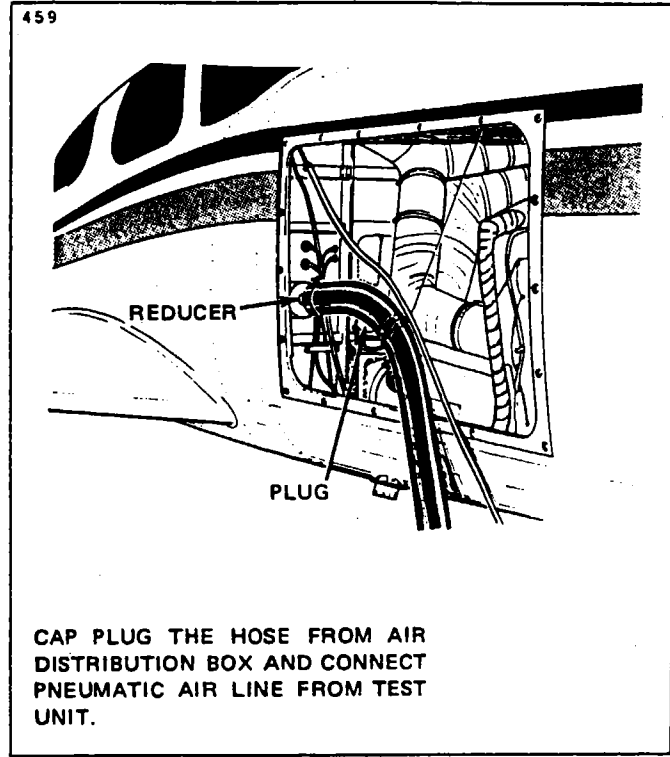
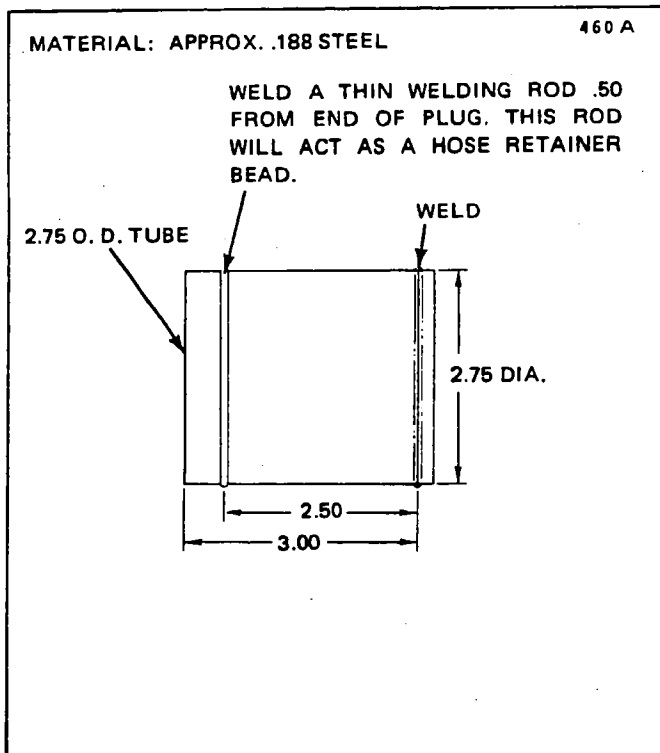
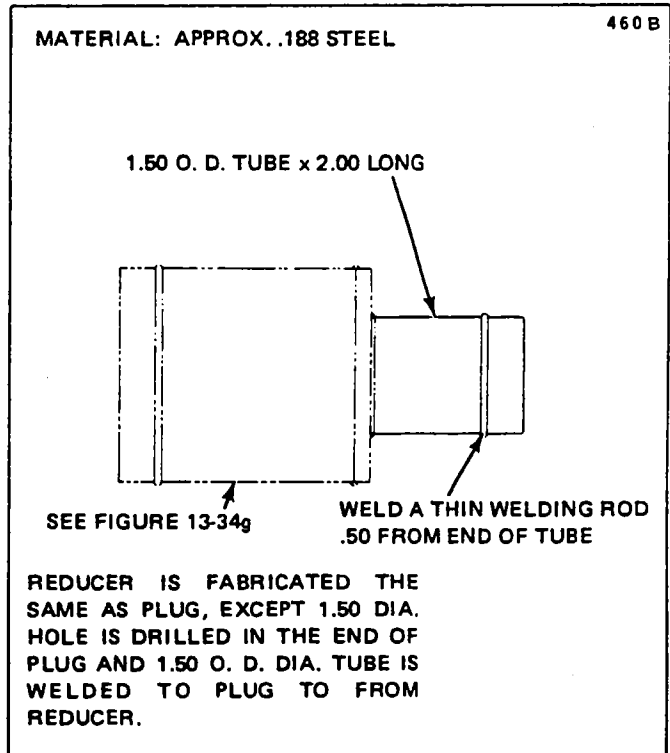

Figure 13-34f. Pneumatic Air Hookup (Optional)
Figure 13-34g. Fabricated Hose Plug
Figure 13-34h. Fabricated Reducer
- (b) Optional Method: Disconnect and remove the fresh air distribution tube from the air distribution box. Cap the hose from the distribution box with a cap plug fabricated per Figure 13-34g. Connect the pneumatic air line from the test unit to the distribution hose at the forward pressure bulkhead per Figure 13-34f. Make the connection using a fabricated reducer as shown in Figure 13-34h.